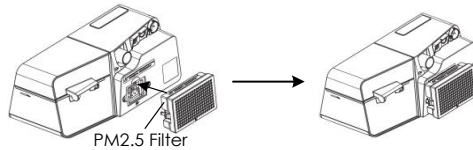

Fig. 10-3
(3) Change the air filter and filter cap to the PM2.5 filter, as shown in Fig. 10-3.